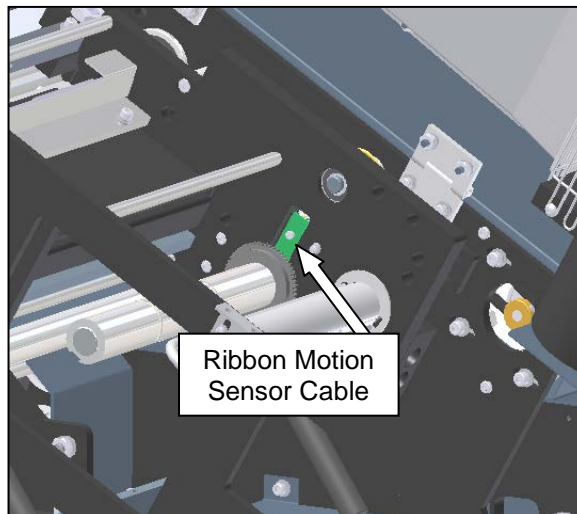

Figure 3-264. Ribbon Motion Sensor
1. Open the cradle cover, and locate the ribbon motion sensor (Figure 3-264). Remove the mounting screw.